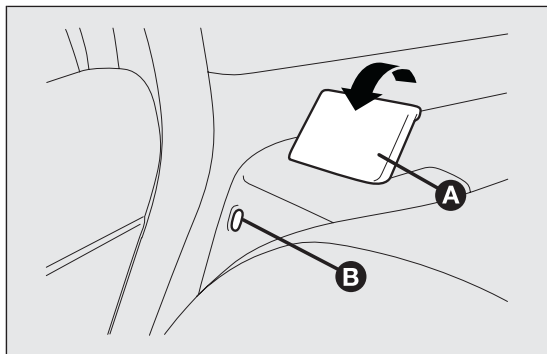

fig. 94
Move the seat belts to the side, making sure that they are correctly extended and not twisted. Lift the backrests and push them back until you hear both fastening mechanisms click in. Check that the red band B fig. 94 on the side of levers A is no longer visible.
*Make sure that the backrest is correctly secured on both sides (red bands B fig. 94 not visible) to prevent it from moving forward in the event of sharp braking, causing injuries to passengers.*